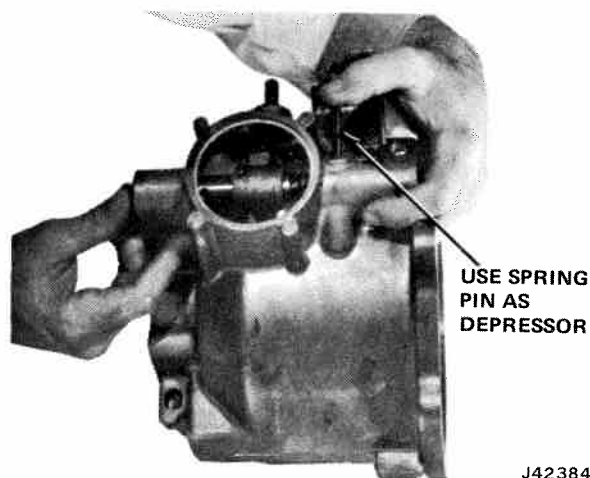

Fig. 8-33 Installing Shift Rail and Poppet
- (5) Move shift lever assembly inward just far enough to allow installation of shaft locating taper pin.
- (6) Install taper pin.
- (7) Insert shift rail, grooved end first, into shift rail rear bore in case.
- (8) Rotate rail so flat side will be adjacent to poppet spring.
(9) Slide rail far enough to allow shift fork to be meshed with shift lever assembly and on rail.
(10) Move rail through shift fork until end of rail is even with edge of poppet bore.
(11) Place poppet ball on end of spring.
(12) Use a spring pin as a tool to depress poppet ball (fig. 8-33).